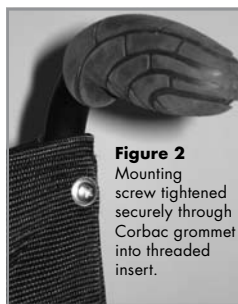

Figure 2
6. Insert screw from original wheelchair upholstery through the grommet and into the threaded insert, and tighten securely (Figure 2).